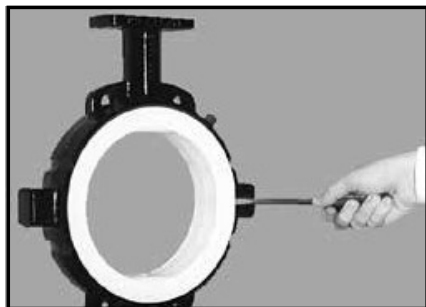

Fig. 1
3. Remove the disc screws (J) from the disc (D) and the shaft (H) of the butterfly valve.
4. Slide the shaft (H) out of the disc (D) and housing (B). Remove the disc and set it aside.
5. Remove the seat (A) by placing a blunt instrument with rounded edges, such as a slotted screwdriver, between the housing (B) and the seat (see Fig. 1).